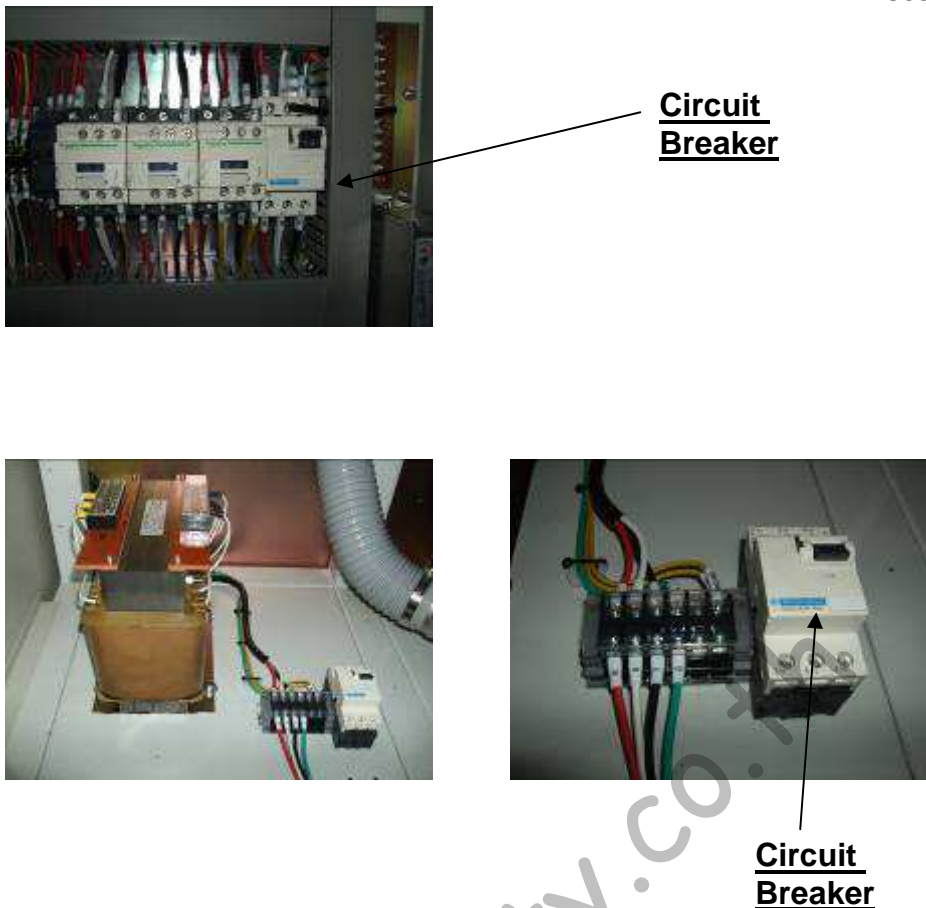

Figure 2.1 Power Supply Wiring Diagram
- (1) Place the machine at the installation site and raise the four supports until the wheels are around 1 cm off the ground. Tighten the screws to secure the supports.
- (2) The machine's power supply is inside the control cabinet on the back. Please connect the wiring as shown in "Fig. 2.1 Power Supply Wiring Diagram" and flip the control panel circuit breaker inside to the ON position.
- (3) If the optional transformer is selected, please screw the input wire to the circuit breaker on the back of the machine and flip the circuit breaker to the ON position.